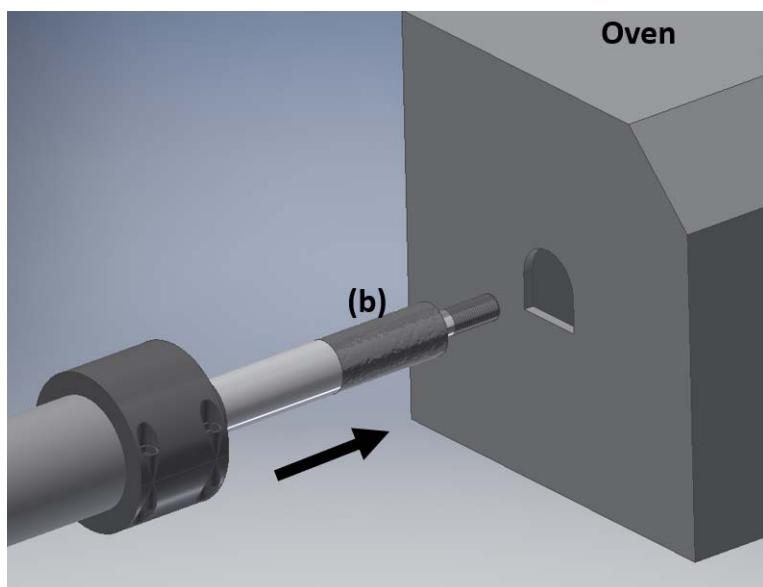

Figure D-13: Inserting heated-line assembly with foam into oven
2. Slide the adapter with foam through the oven hole until the flange on the clamp (a) fully goes into the oven wall. Cut the foam to adjust length as necessary (b). See Figure D-13.